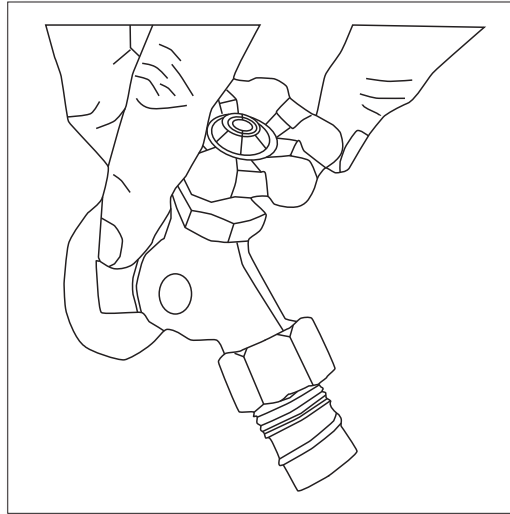

Fig. 17
**\*!Turn on the water supply at the faucet!\*** (*Fig. 17*)